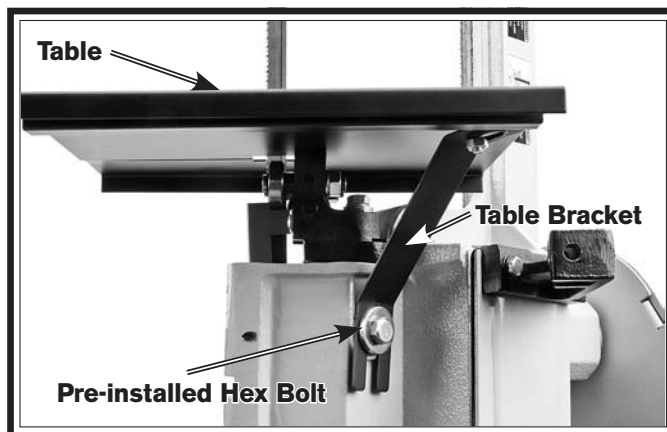

Figure 43. Table installed.
6. Install the table bracket with the pre-installed hex bolt, the M6-1 x 12 flat head screw, and the M6-1 hex nut, as shown in **Figure 43**.